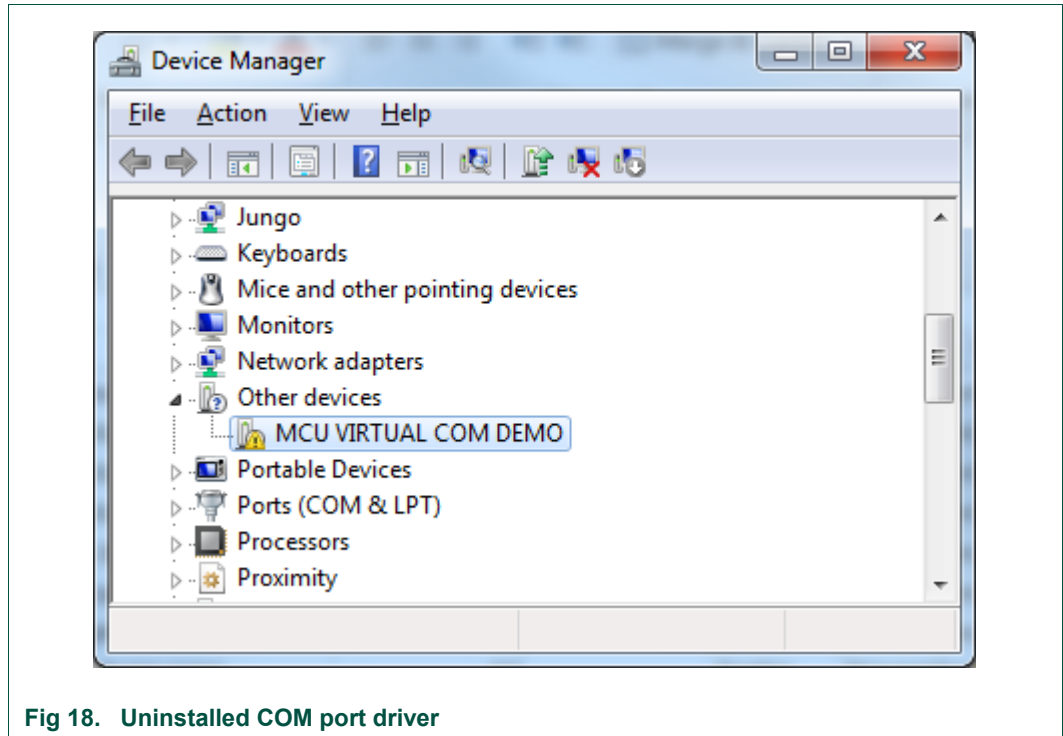

Fig 18. Uninstalled COM port driver
3. Locate the unknown device. This should be a device with a Yellow Bang, named “MCU VIRTUAL COM DEMO”. See Fig 18.